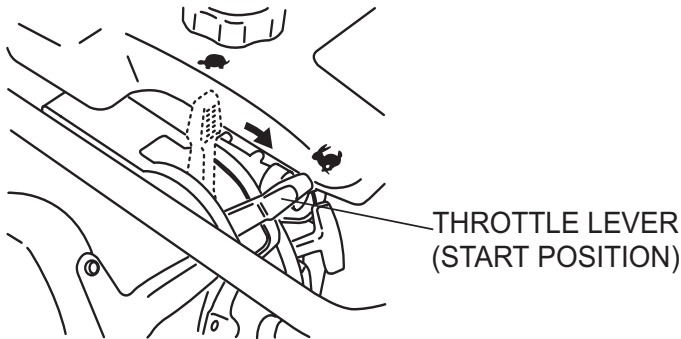

Figure 9. Throttle Lever (Start Position)
1. To start the rammer tamping action, move the throttle lever (Figure 9) **quickly** from **IDLE** to the **START** (↶) position. **DO NOT** move the throttle lever slowly as this may cause damage to the clutch or spring.